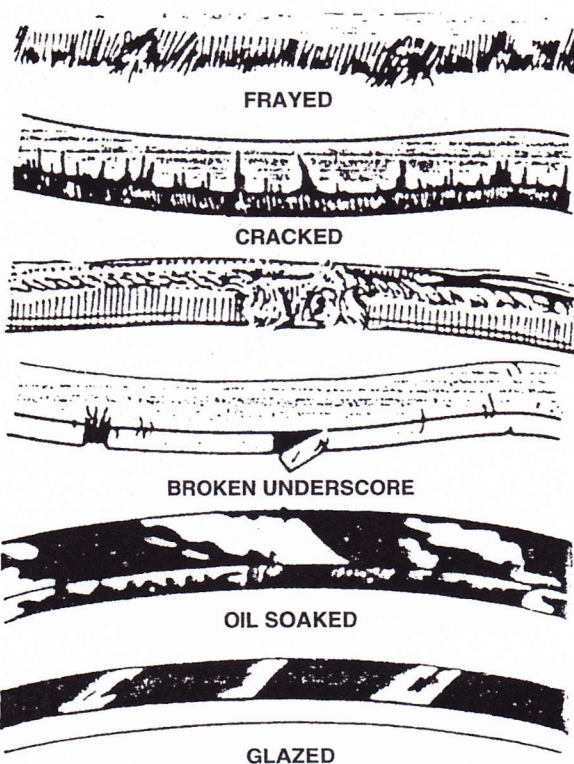

FIGURE 18-34 The alternator's drive belt must be replaced if any of these conditions exist.
2. Inspect the alternator drive belt. Loose drive belts are a major source of charging problems. If a belt does not have the proper tension, it might produce a loud squealing sound. Use a belt tension gauge to check the tension as shown in Figure 18-33. Keep in mind that different belts (V, cogged V, and multi-ribbed V) require different tensions. Always consult the manufacturer's specifications. In addition, check the belt for signs of fraying, cracking, or glazing; replace if needed (Figure 18-34).